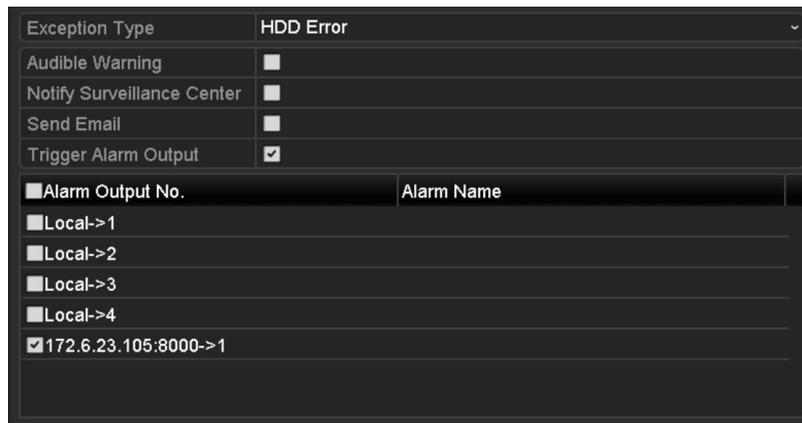

Figure 12-26 Configure HDD Error Alarm
Step 3 Click the checkbox(s) below to select the HDD error alarm type (s), as shown in Figure 12-26.